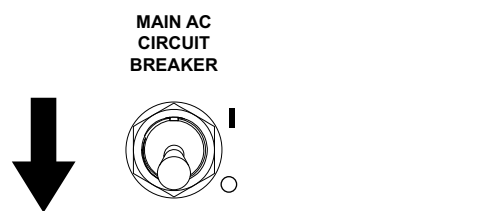

Figure 3-34. Main AC Circuit Breaker OFF (O)
4. See Figure 3-34. Switch main AC circuit breaker to OFF (O).